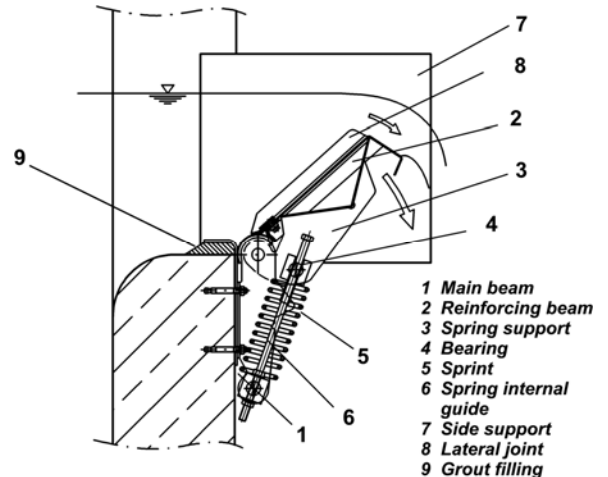

Figure 2: Sections of the HYDROVEX® Flap Spring-loaded Weir
The construction of the spring-loaded weir is represented in **Figure 2**. A main beam, (1) made up of a profile sheet in the shape of a z, folded in two, is attached by shafts to the back of the concrete weir. We calculate the exact installation elevation of the unit according to each project to generate the appropriate retention level.